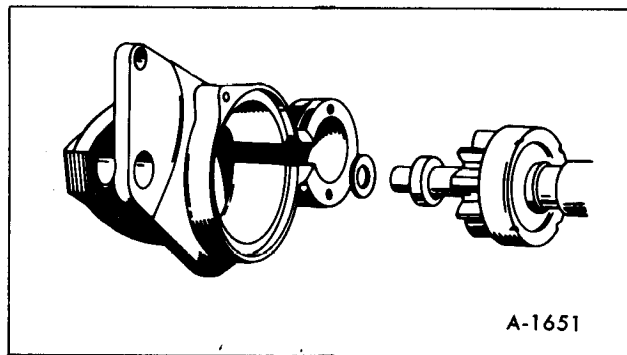

Figure 63—Installing Front Bracket
4. Place the thrust washer on the drive end of the shaft. Slide the armature with the lever into the front bracket (figure 63).